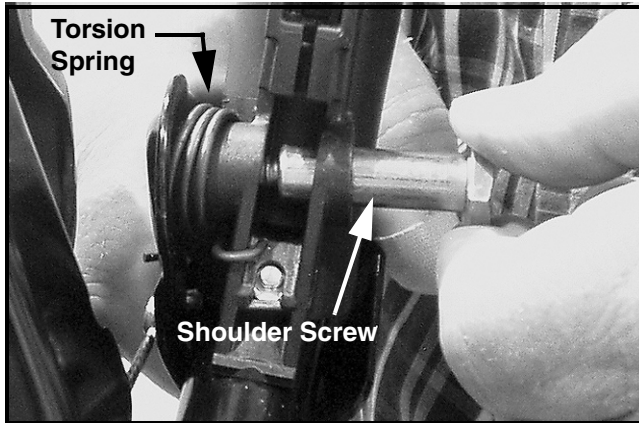

FIGURE 9
21. While firmly holding the torsion spring loaded clutch lever in its assembled position, carefully remove the existing shoulder screw and replace it with a new Shoulder Screw, Item 6. See Figure 9.